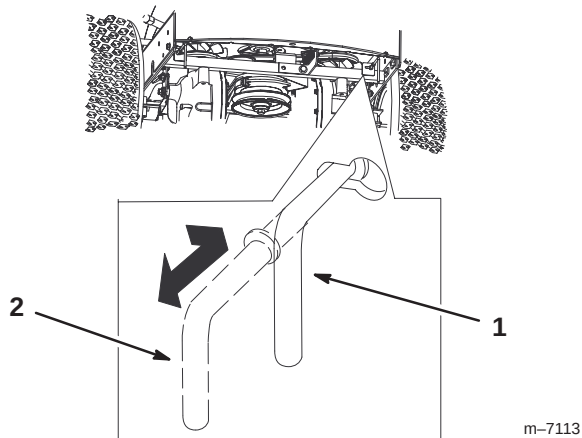

Figure 14
3. Move the two bypass levers to the outside and push them in until the washer on the rod passes through the slot (Fig. 14).
4. Push the levers into the middle to lock them in place (Fig. 14).
1. Move each bypass levers to the outside and pull them reward, completely through the slot (Fig. 14).
2. Push the levers towards the middle (Fig. 14).